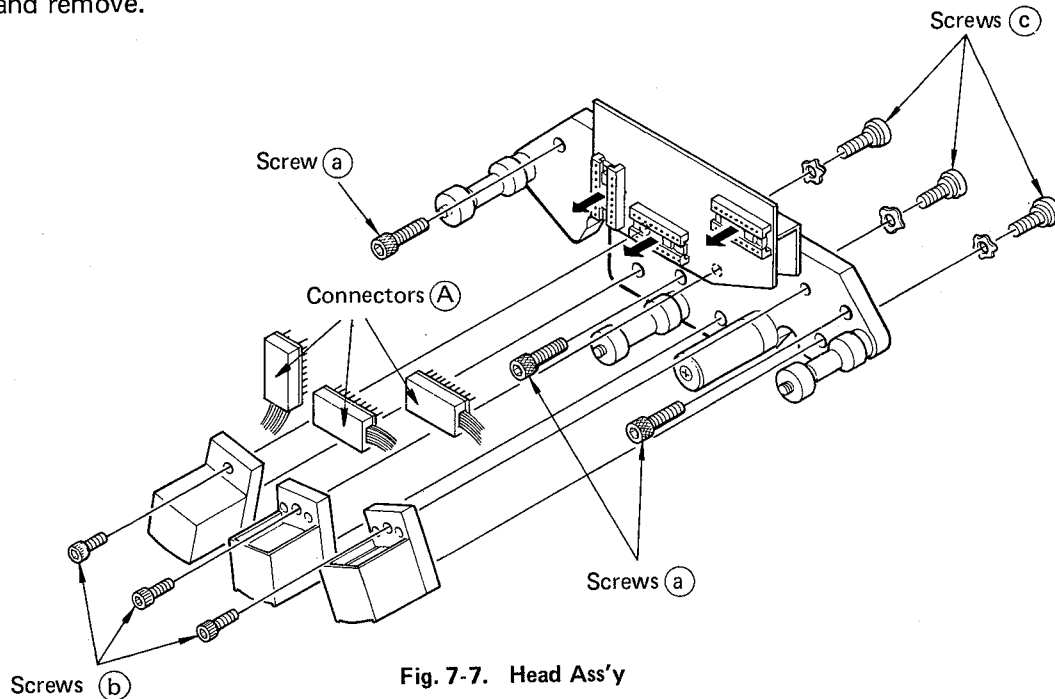

Fig. 7-7. Head Ass'y
1. First, remove the head housing as described in 7-4-1 (A).
2. Then remove the head housing mount plate (C) found behind the head housing.
3. Using a 3 mm Allen wrench, remove the three Allen screws (a) holding the head as shown in Fig. 7-7, and remove.
4. The head can be removed by first removing the Allen screws (b) located on the rear of the head and then removing the other screws (c) from the rear of the head base. Finally, disconnect the connectors (A) from the PCB.